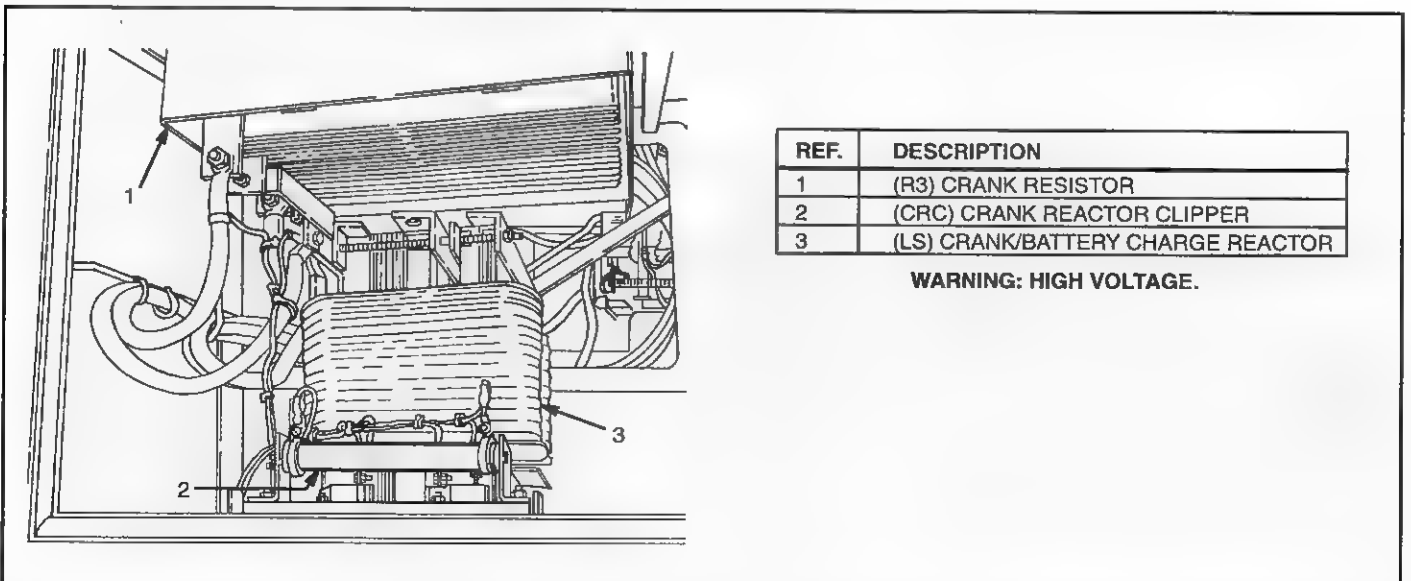

FIG. 23. CONTROL AREA 8 – LOCATED ON THE RIGHT SIDE OF THE LOCOMOTIVE ADJACENT TO THE AIR BRAKE COMPARTMENT. E-31359B.
Located on the right (A) side of the locomotive adjacent to the air brake compartment (Fig. 23).